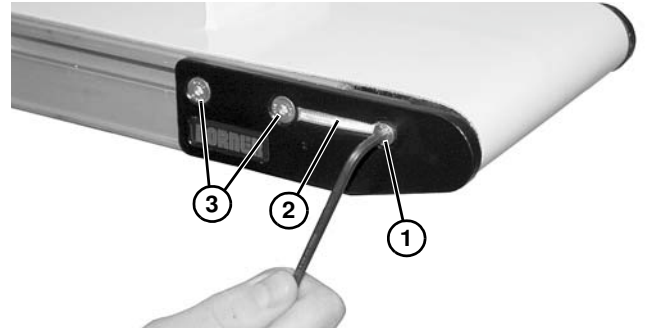

Figure 100
1. On one side of the conveyor, remove screw (Figure 100, item 1) and remove dust cover (Figure 100, item 2), if installed.
2. Remove two fastening screws (Figure 100, item 3).